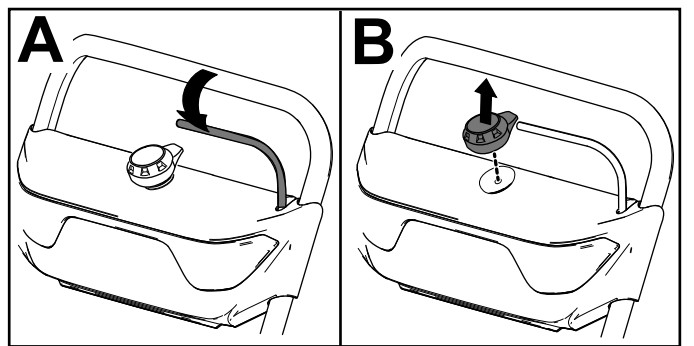

Figure 12
1. Release the bail (A of Figure 12).
2. Remove the electric-start button from the electric starter (B of Figure 12).